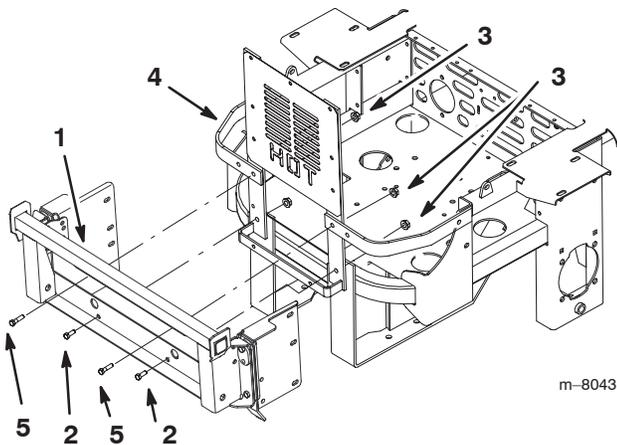

Figure 6
1. Install the bagger mounting bracket to the rear frame of the machine (Fig. 6).
2. In the top two holes, install 2 bolts (3/8 x 1-3/4 inch) and 2 flange nuts (3/8 inch) (Fig. 6).
3. In the bottom two holes, install 2 bolts (3/8 x 1-1/4 inch) and 2 flange nuts (3/8 inch) (Fig. 6).